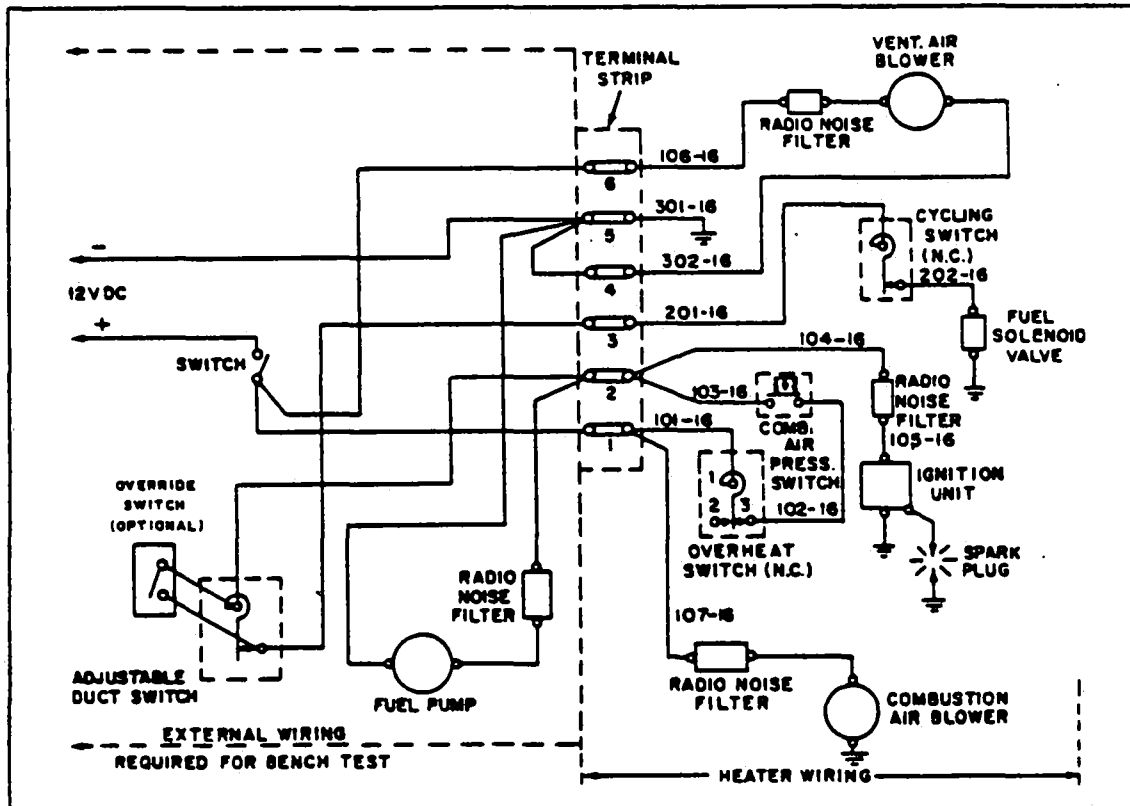

Figure 13-28. Wiring Connections for Heater Operation Test
- c. Connect components and heater as outlined in the wiring connection diagram, Figure 13-28. The power supply switch should be open.